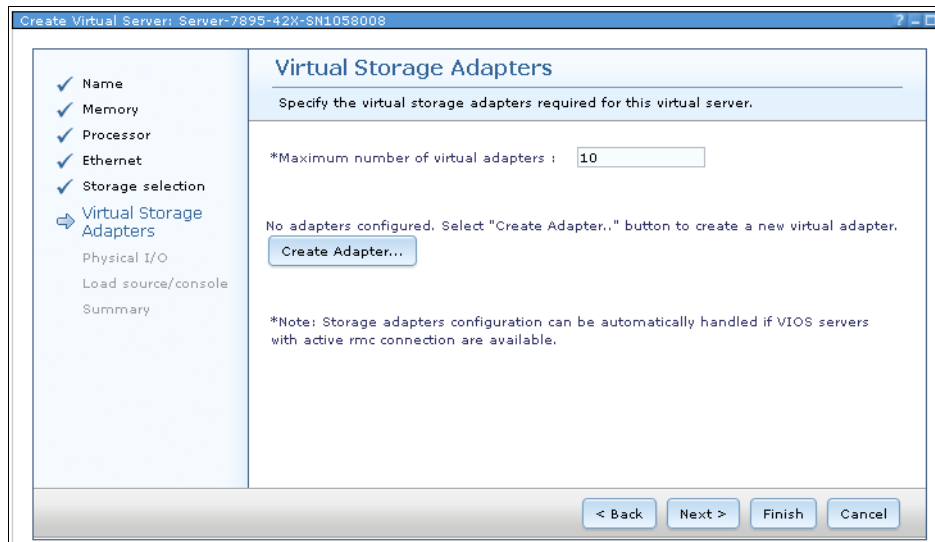

Figure 8-79 IBM i virtual server create virtual storage adapter
6. Because no virtual storage adapters exist, the **Create Adapter** option is displayed in the main Virtual Storage window, as shown in Figure 8-79. Any virtual storage adapters that already are created are shown. Click **Create Adapter**.